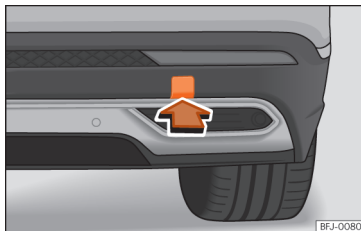

Fig. 100 Rear bumper on right: remove the lid.
The housing of the screw towing eye is on the right side of the rear bumper behind a lid » Fig. 100. Vehicles equipped as standard with a towing bracket **do not** have any housing for the screw towing eye behind the lid. In this case, the tow hitch needs to be extracted
- Press the bottom side of the lid » Fig. 100 to unclip it.